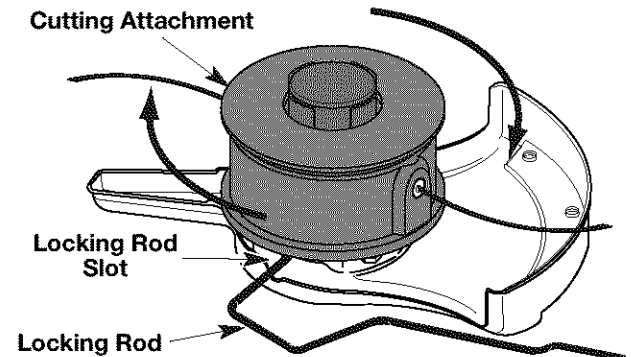

Fig. 7
3. Screw the cutting attachment clockwise off of the shaft (Fig. 7) and store for future use.